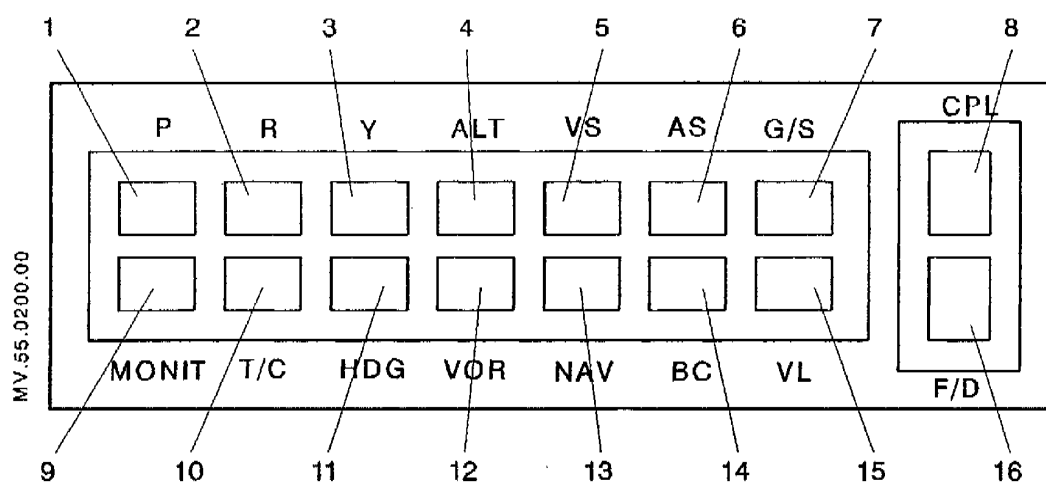

Figure 1
1.3 Autopilot control panel (Figure 1)